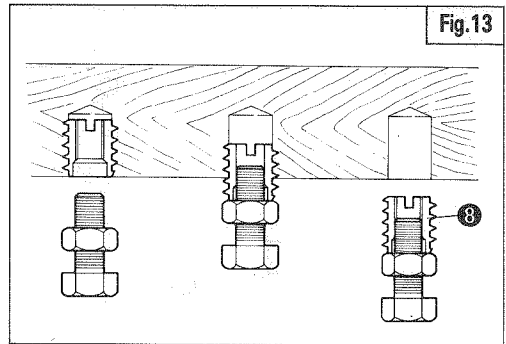

Fig.13
1. Refer to Fig. 13. Attach Sunk Nuts ⑧ using a bolt and nut of M12. ① should be vertical.